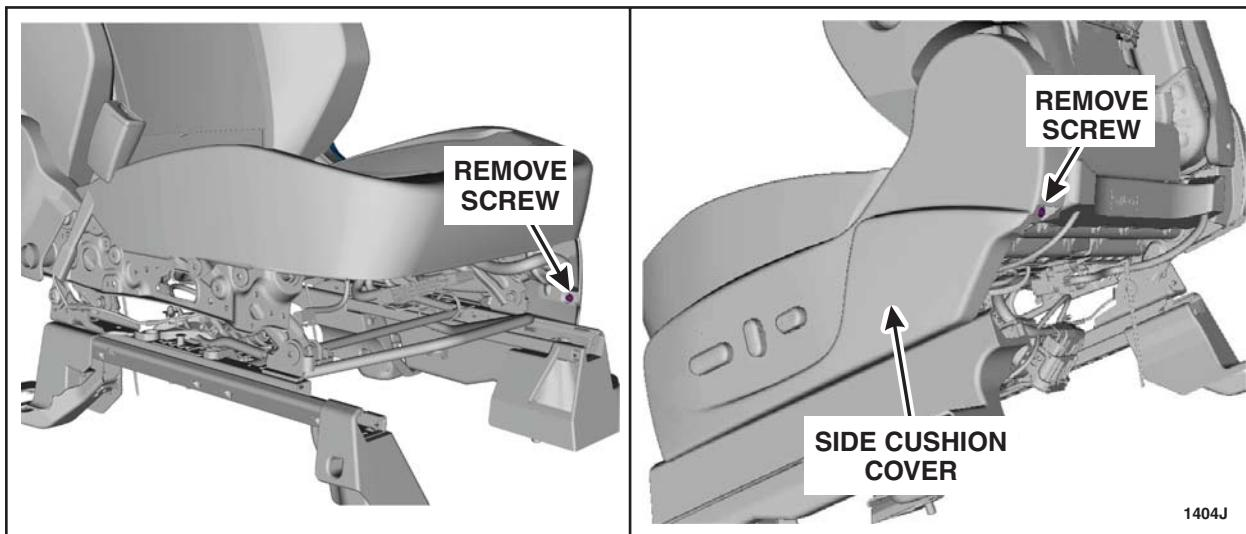

FIGURE 10
- Remove the two side cushion cover screws. See Figure 10.